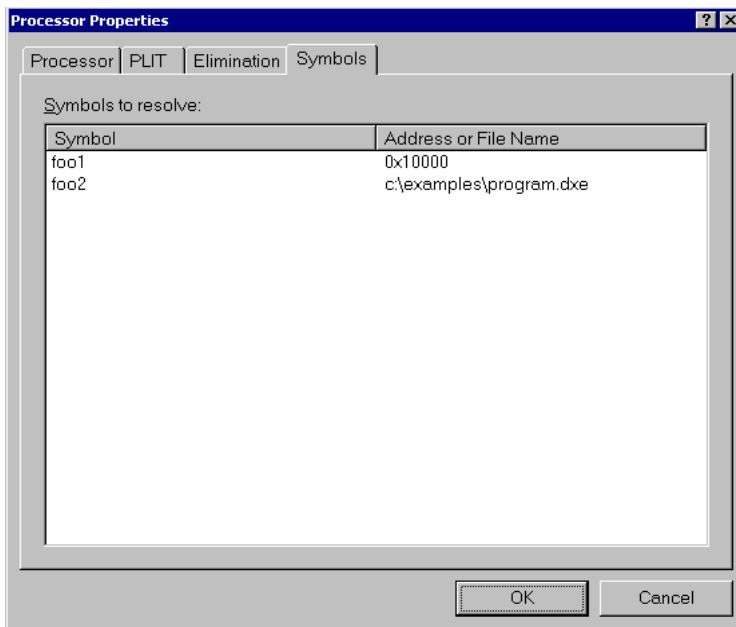

Figure 3-36. Processor Properties Dialog Box – Symbols Tab
1. Click **Browse** to display the **Symbols to resolve** list in the **Symbols** pane (Figure 3-36).